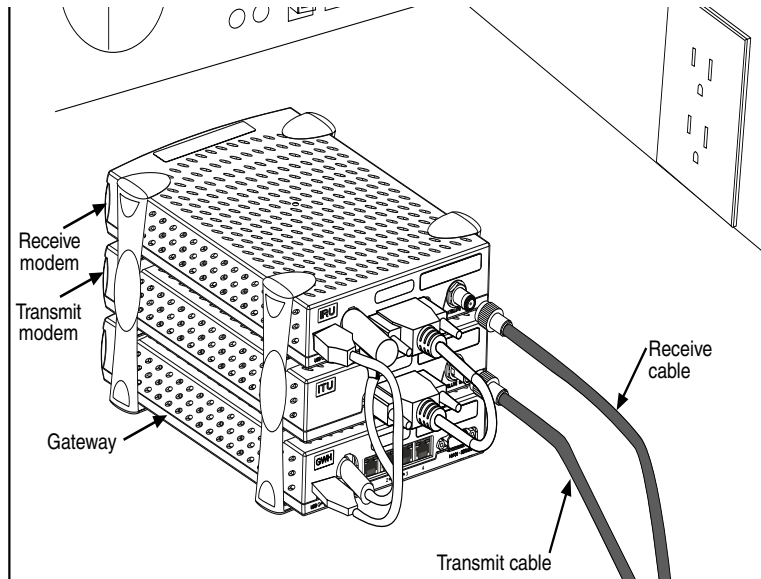

Figure 59: Attach coaxial cables
7. Connect the receive coaxial cable to the receive modem and the transmit coaxial cable to the transmit modem (see Figure 59).